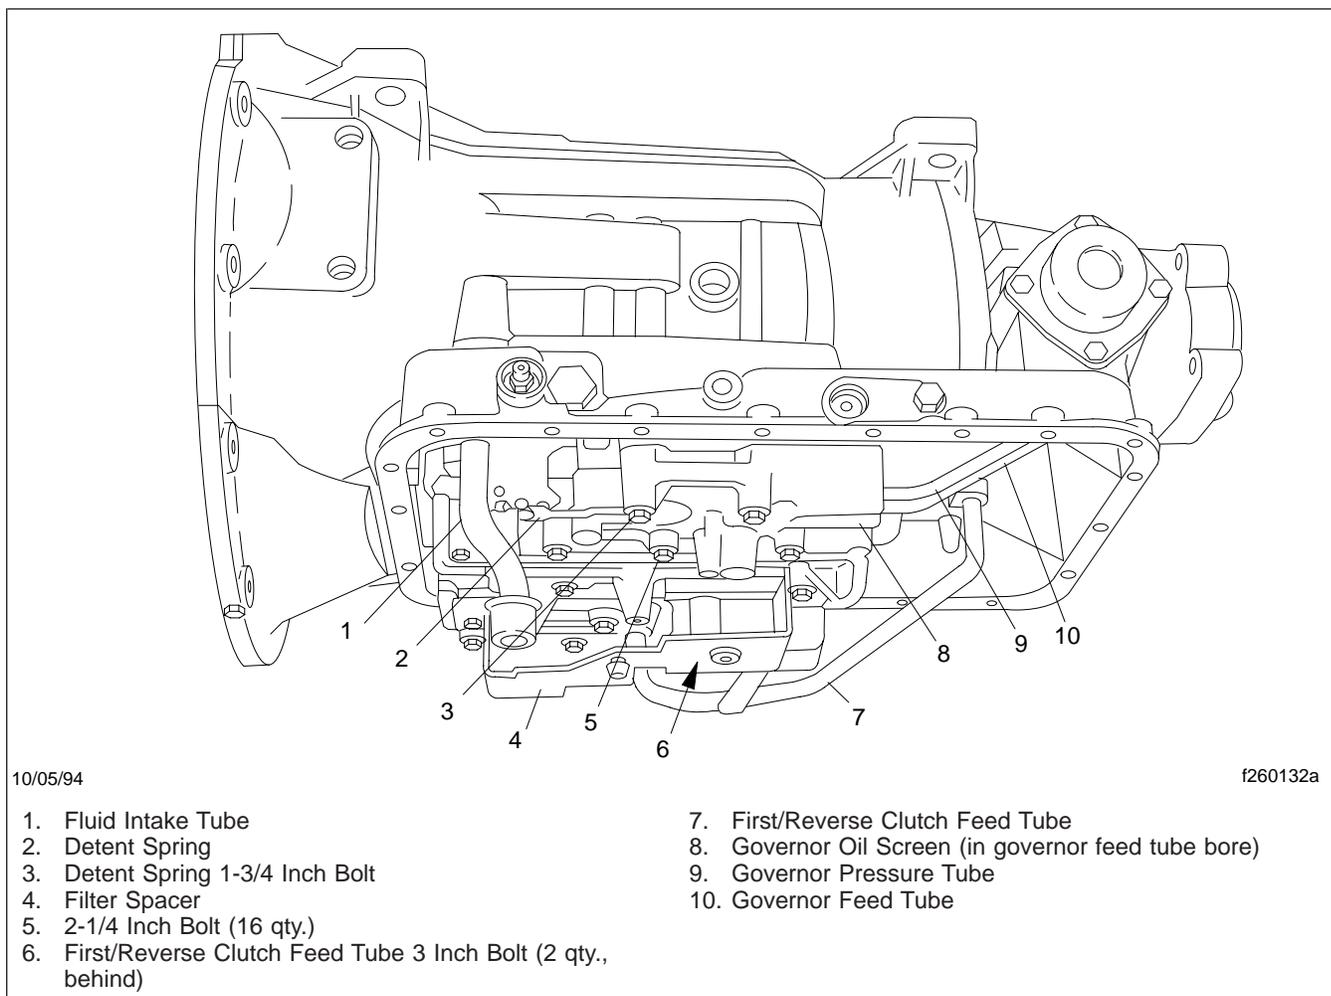

Fig. 7, Allison AT Series Transmission Governor
8. Clean or replace the governor oil screen located in the governor feed tube bore. See **Fig. 7**.